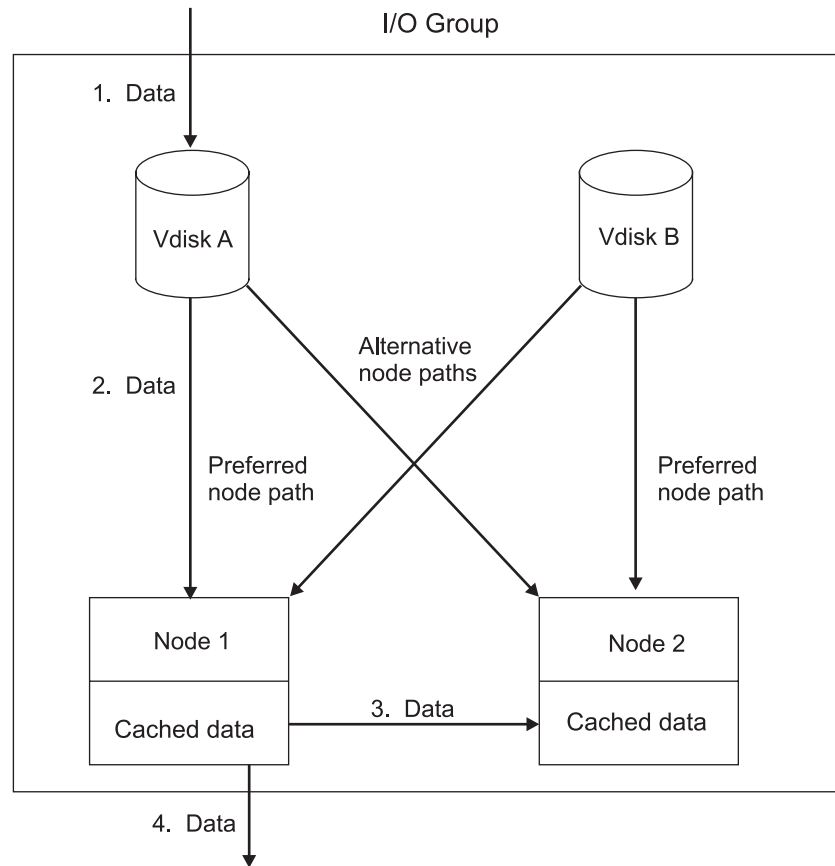

Figure 3. I/O group
Figure 3 on page 13 shows an example I/O group. A write operation from a host is shown (item 1), that is targeted for VDisk A. This write operation is targeted at the preferred node, Node 1 (item 2). The write operation is cached and a copy of the data is made in the partner node, the Node 2 cache (item 3). The write operation is now complete so far as the host is concerned. At some time later the data is written, or de-staged, to storage (item 4).